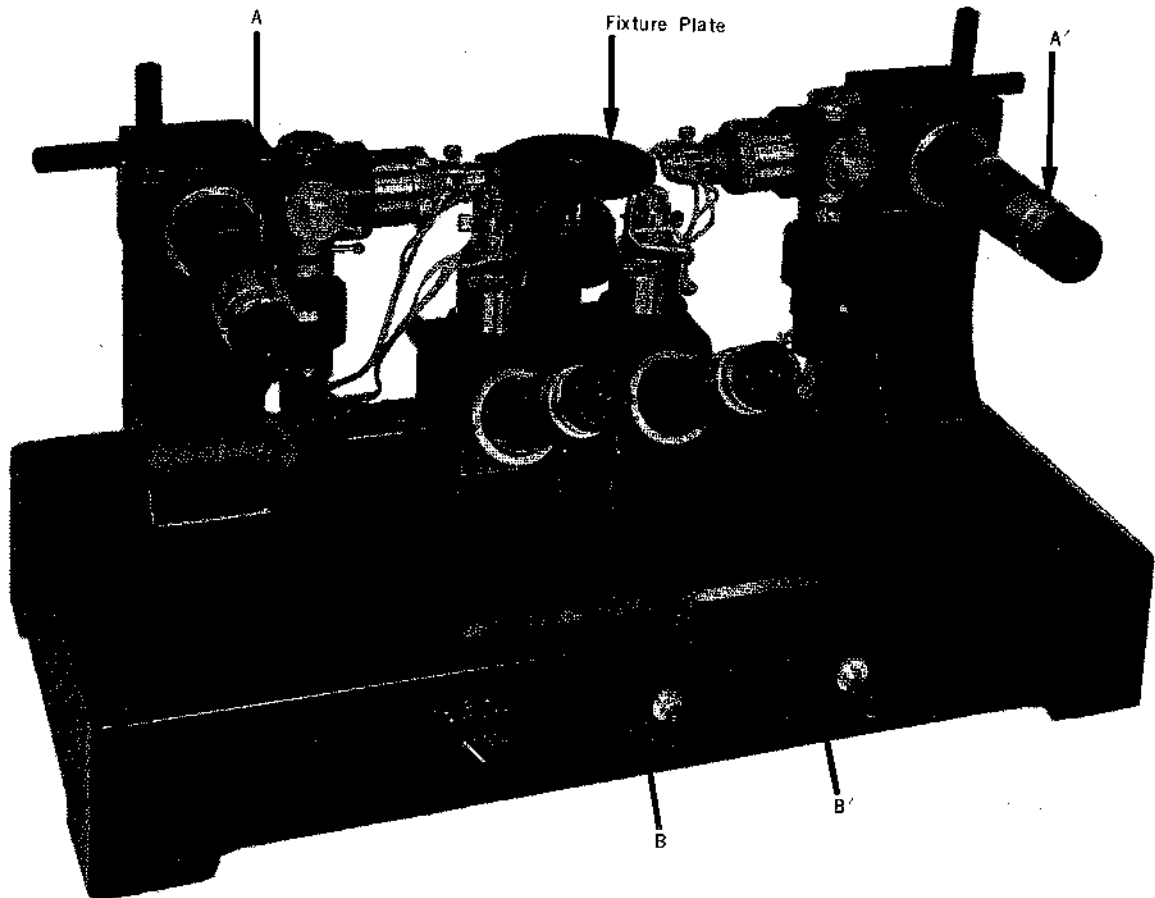
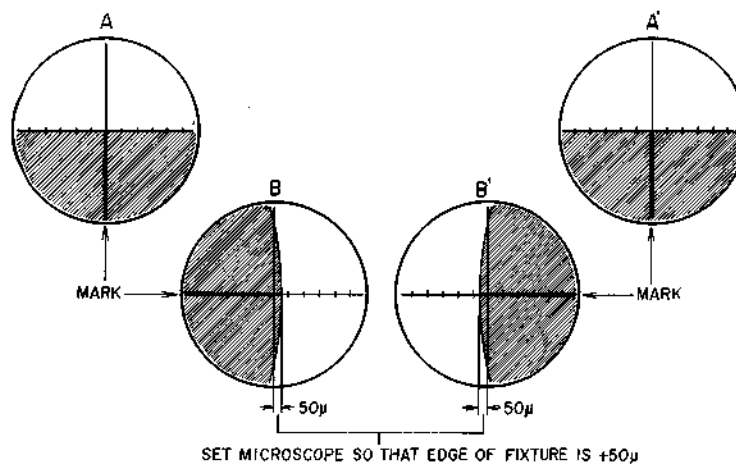

Fig. 1
Fig. 2 Microscopic Views of Fixture
- (1) Remove Video Head Cover.
- (2) Soak a small piece of chamois with Freon Liquid or alcohol and clean the outer part of the video head drum by touching very lightly (ref. fig. 1)
- (3) With rotating motion, pass finger lightly over the slip ring part of the video head center, so that the surface of the chamois passes over the video head tip.
- (4) Clean the entire surface of the video head drum and the upper part of the drum guide band with chamois.
- (5) Clean surfaces of full track erase head, side track erase head, and control and audio heads.
- (6) If oxide deposits, etc. are adhering to tape guide, clean tape guide.
- (a) As shown in Fig. 1, to adjust the position of the microscopes, with the prop positioned in the center of the microscopes, align the center line of the microscopes (microscopes attached to fixture plate) (A and A') with the mark on the fixture (ref. Fig. 2).